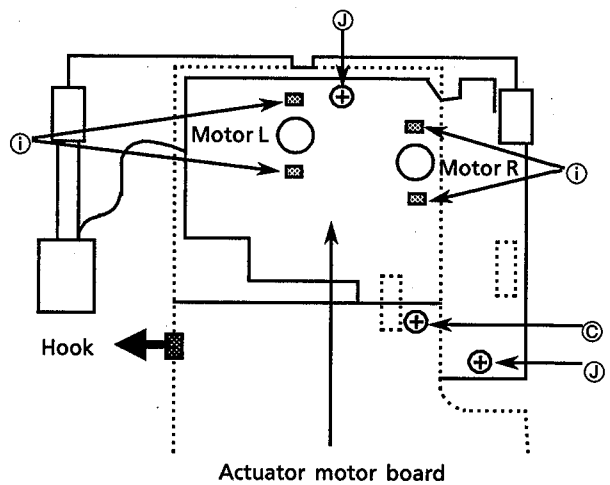

Fig. 39
1. Unsolder 4 soldered point ① for both motors. (See Fig. 39.)
2. Remove a screw ③ securing the CD servo board. (See Fig. 39.)
4. Remove 2 screws ④ securing the actuator motor board. (See Fig. 39.)